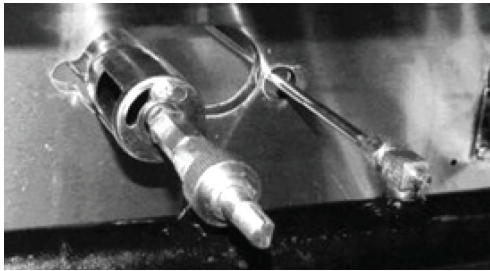

Fig.4
2. Unscrew bolts and pilot valve, then remove the manifold (Fig.4).